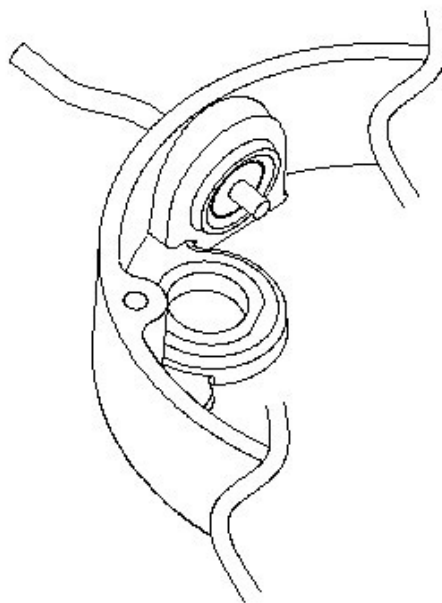

Figure 2-13
4. Confirm the internal waterproof rubber plug is tightly fixed with under cover for preventing it from falling out or waterproof failure (refer to **Figure 2-13**).